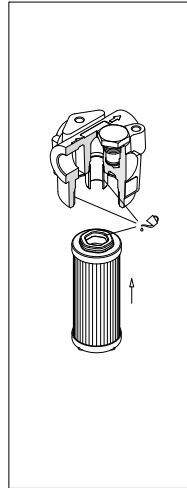

fig. 7
- (Fig. 7) Lubricate with the operating fluid the filter element Hex Ring, the housing tap and cavity, then fit the filter element on the tap. Pay attention not to damage the Hex Ring